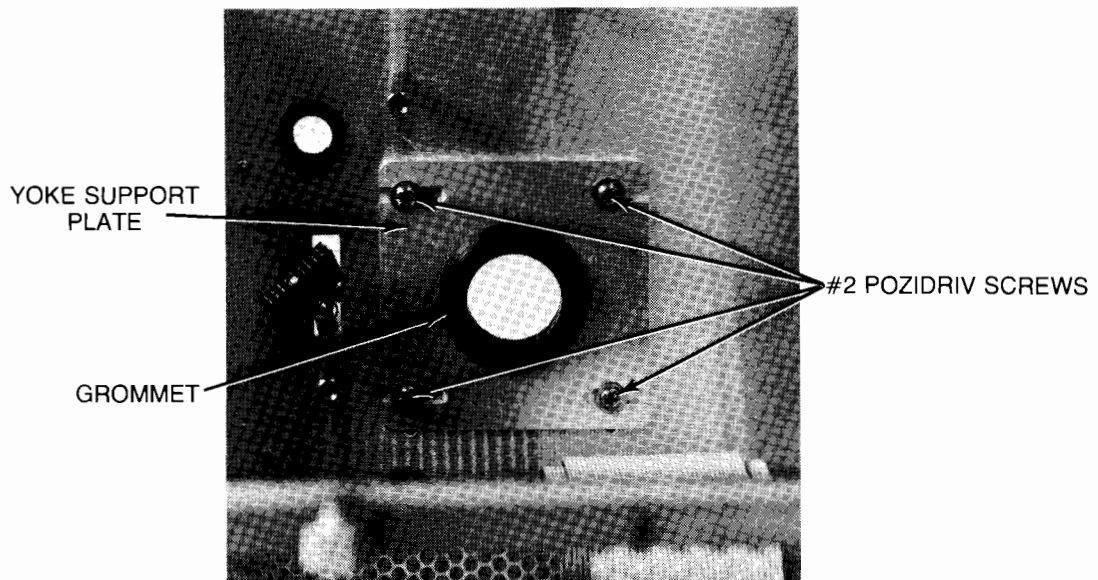

Figure 4-94. Yoke Support Plate
2. Loosen the four #2 Pozidriv screws that hold the yoke support plate and grommet so that the plate “floats” (Figure 4-94).
5. Tighten the four #2 Pozidriv screws that attach the yoke support plate to the chassis (Figure 4-94).